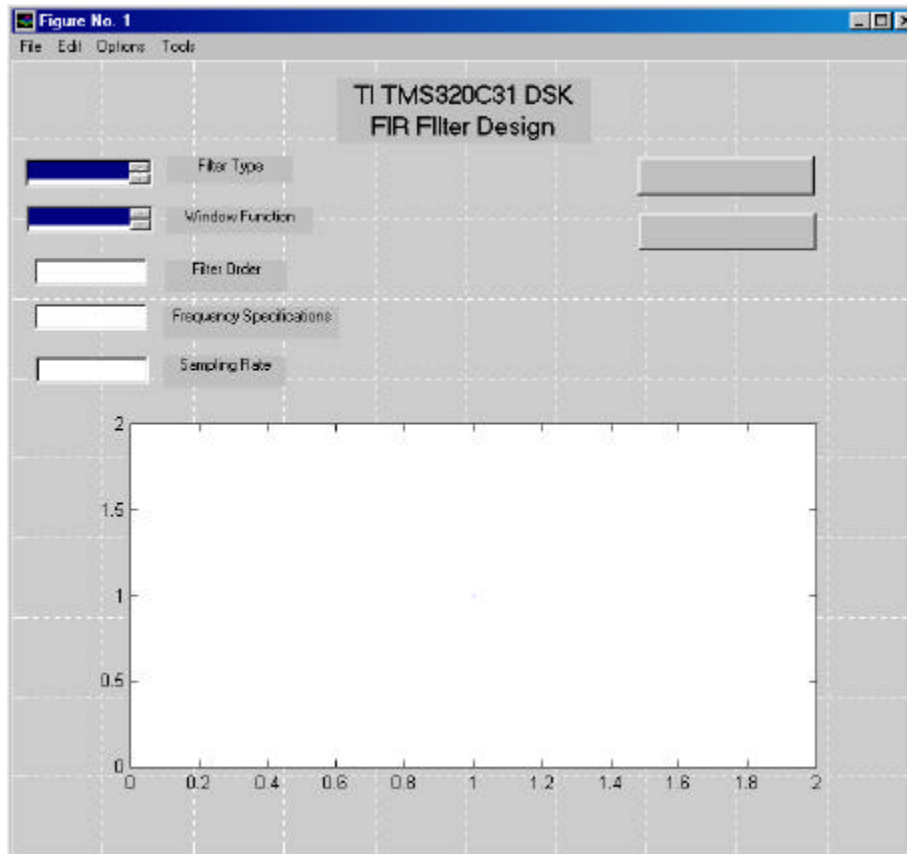

Figure 2: Rough Layout of Matlab/DSK GUI
Step 2. Generate a rough version of the Matlab/DSK GUI by first generating an x-y plot, (use the Matlab command `>plot(0,0)` to generate an x-y plot) and then using “guide” (Matlab command `>>guide`) to place the text boxes, list boxes, edit boxes and pushbuttons as shown in the figure below. Change the “String” field of each GUI element to match that of Figure 2. If you are unfamiliar with this process then we recommend that you consult the Matlab provided documentation entitled “Building GUIs with Matlab” [2].